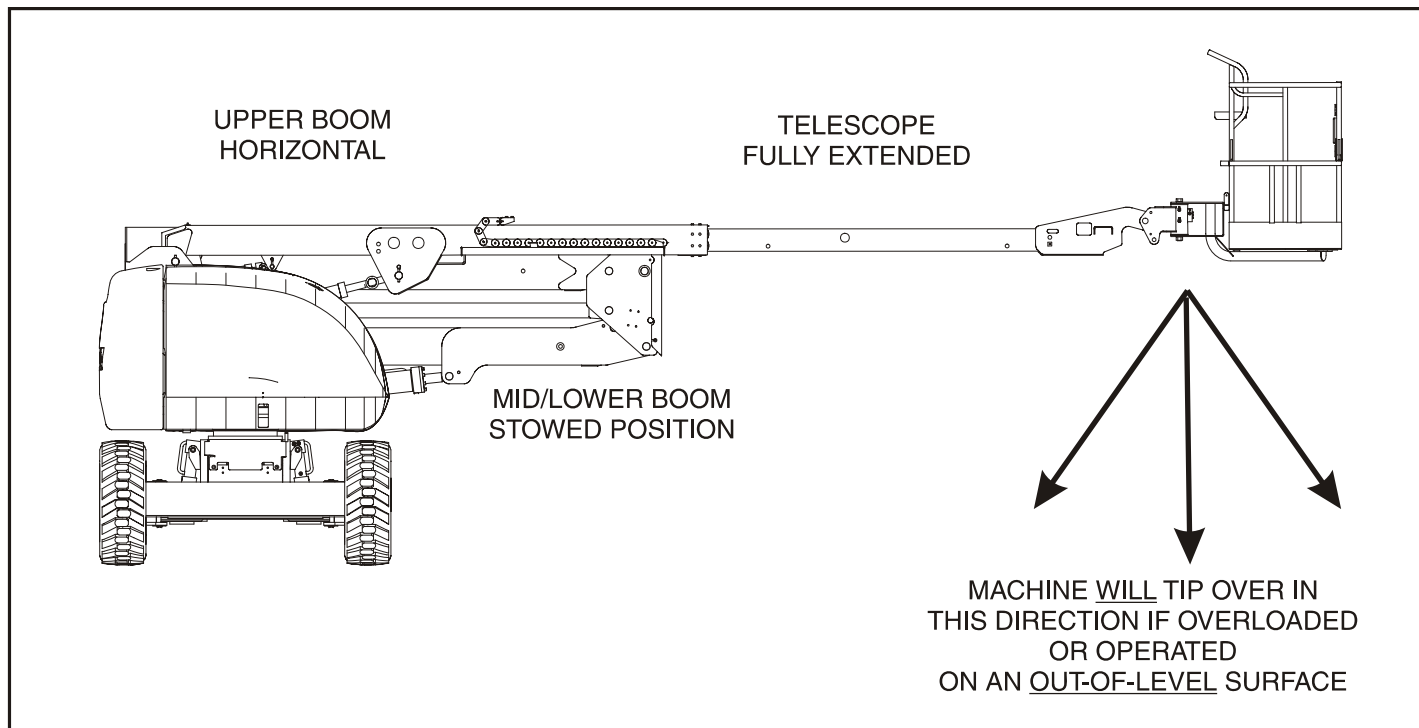
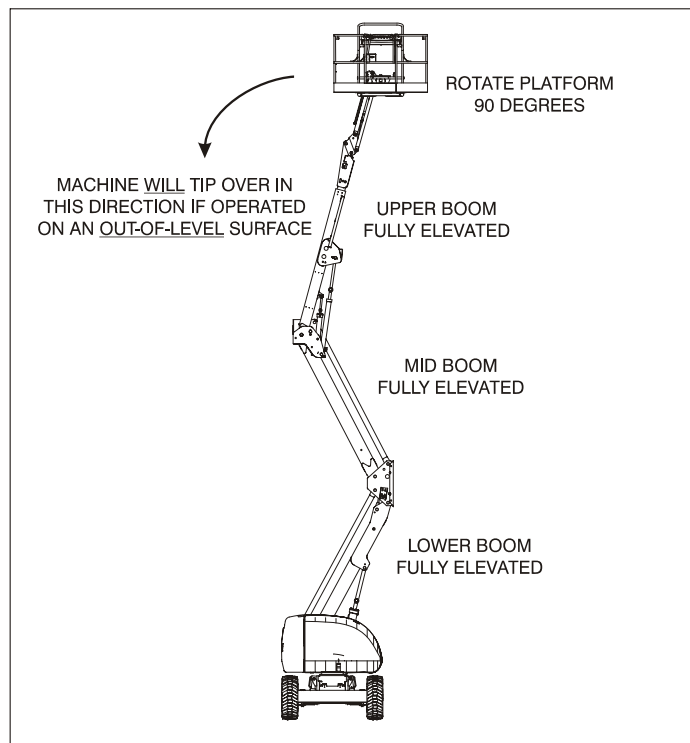

Figure 4-1. Position of Least Forward Stability
Figure 4-2. Position of Least Backward Stability
Machine stability is based on two (2) conditions which are called FORWARD and BACKWARD stability. The machine's position of least FORWARD stability is shown in (See Figure 4-1.), and its position of least BACKWARD stability is shown in (See Figure 4-2.)